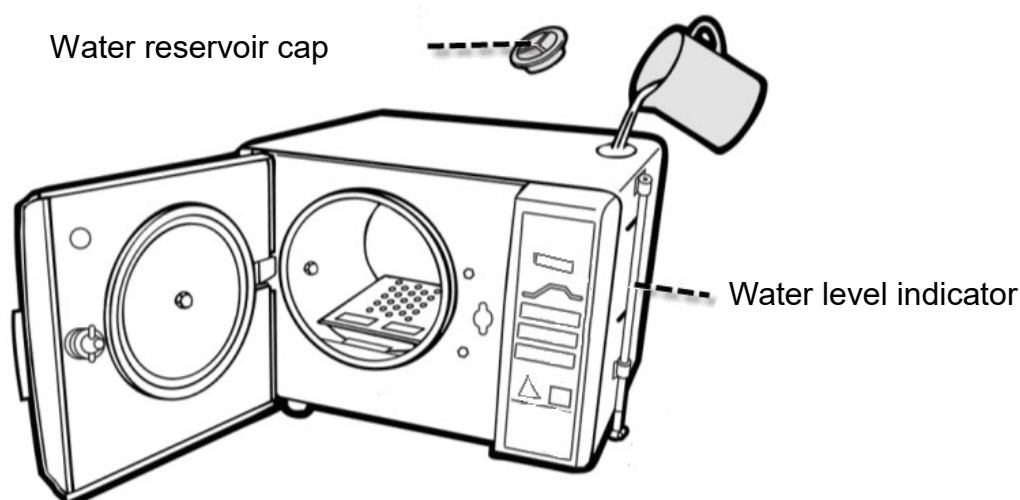

Figure 10
A. Open the water reservoir cap. Pour the distilled water into the water reservoir as shown in Figure 10.